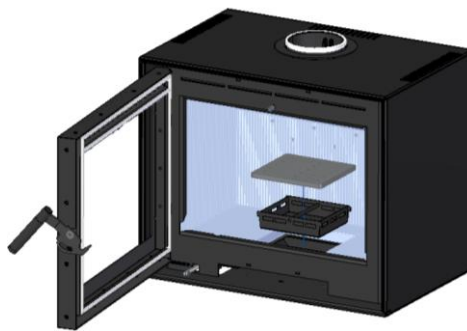

Figure 14 – Remove of the drawer
2. Remove the ash grate as well as the ash drawer that is under the grate, see Figure 14.